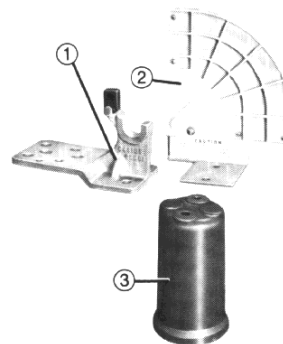

FIGURE 2 REPLACING ARC CHUTE ASSEMBLY
2. Disconnect insulating connector link (M) by removing bolt, spacer, and nut (at Q).
4. Remove the two bolts holding the jaw and arc chute assembly to the insulator. See assembly drawing, figure 2.